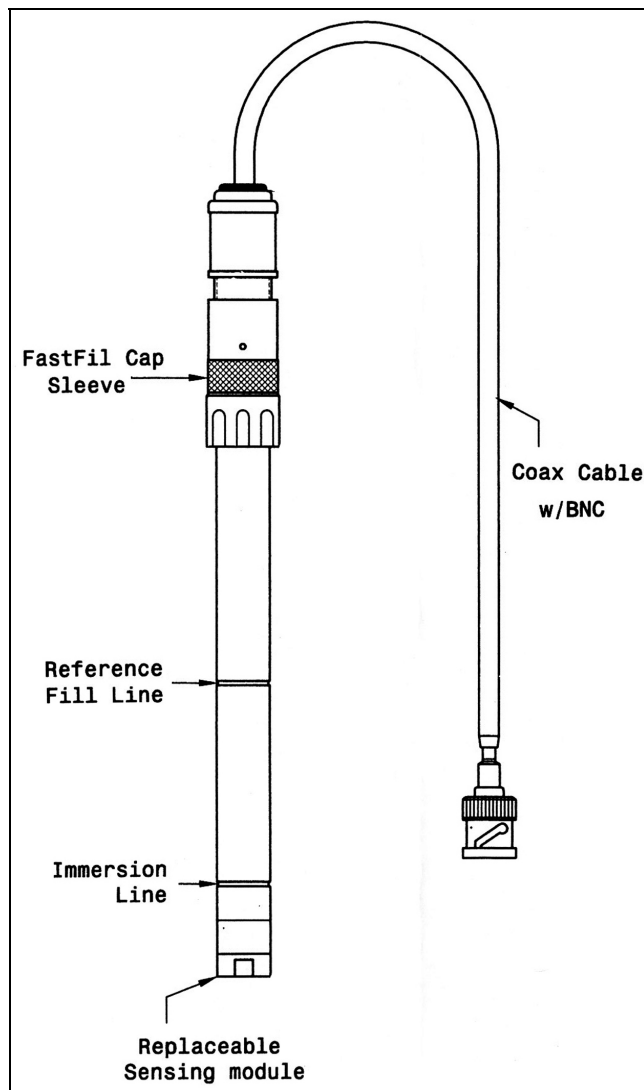

Figure 1: AC019 Ca⁺⁺ Ion Selective Electrode
- b. Fill the reference chamber with the Reference Fill Solution provided above the reference fill line on the electrode (see Figure 1)